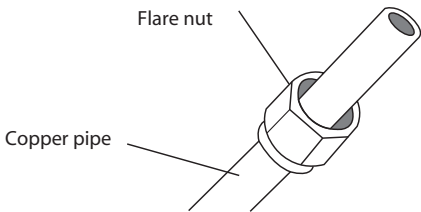

Fig. 7.4
3. Place flare nuts on both ends of pipe. Make sure they are facing in the right direction, because you can't put them on or change their direction after flaring. See Fig. 7.4